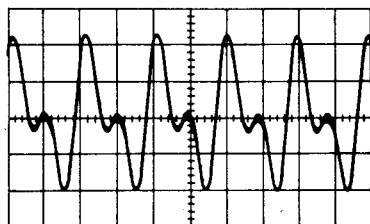

Fig. 5-7 R53/R63 setting (Incorrect)
3. Adjust R53/R63 (RMS SYM) to obtain a clear 200 Hz sine-wave on the oscilloscope. See Figs. 5-7 and 5-8.